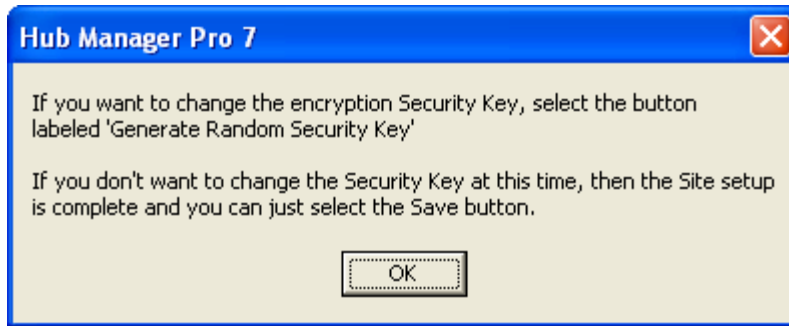

Figure 5: Generate Security Key
5. Now a message will be displayed asking you to generate a new Security Key (Fig. 5)